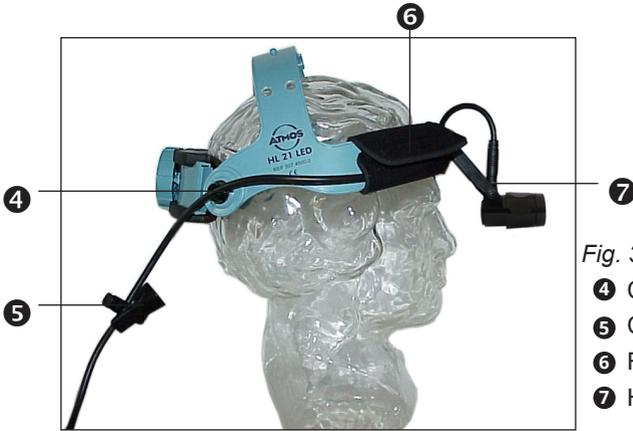

Fig. 3.
- Take one of the enclosed connecting cables and join it to the ATMOS HL 21 LED headlamp connection (⑦, Fig. 3).
- Use the enclosed cable clip (⑤, Fig. 3) to fix the long cable to your clothes.